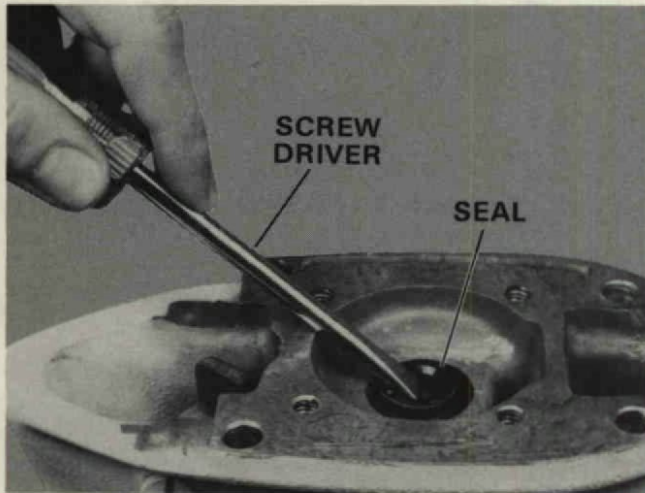

Figure 54. Removing Driveshaft Seal.
- G. Pry seal out of bore in upper gear housing with screwdriver. Figure 54.